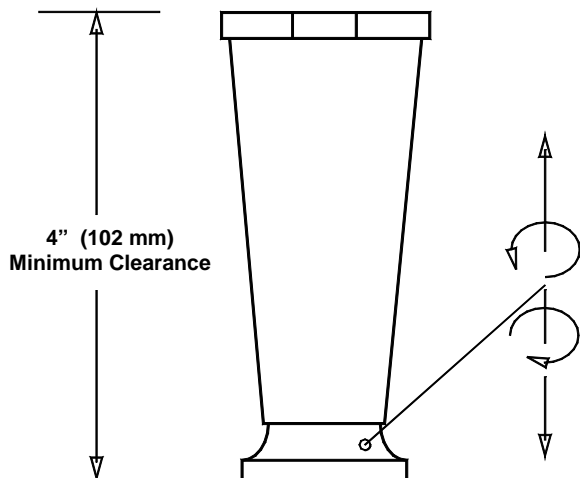

Fig. 1
2. If the optional legs are installed, level the unit by turning the bottom part of each leg clockwise or counterclockwise (Fig. 1). The National Sanitation Foundation (NSF) requires a minimum of four inches clearance between the machine and the counter top for leg mounted machines.